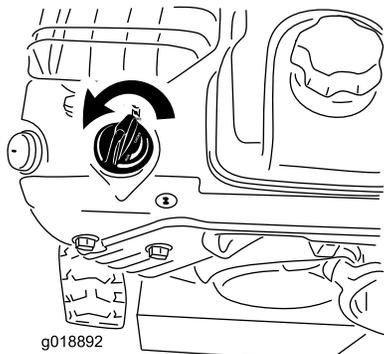

Figure 24
- Rotate the choke to the Choke position (Figure 24).